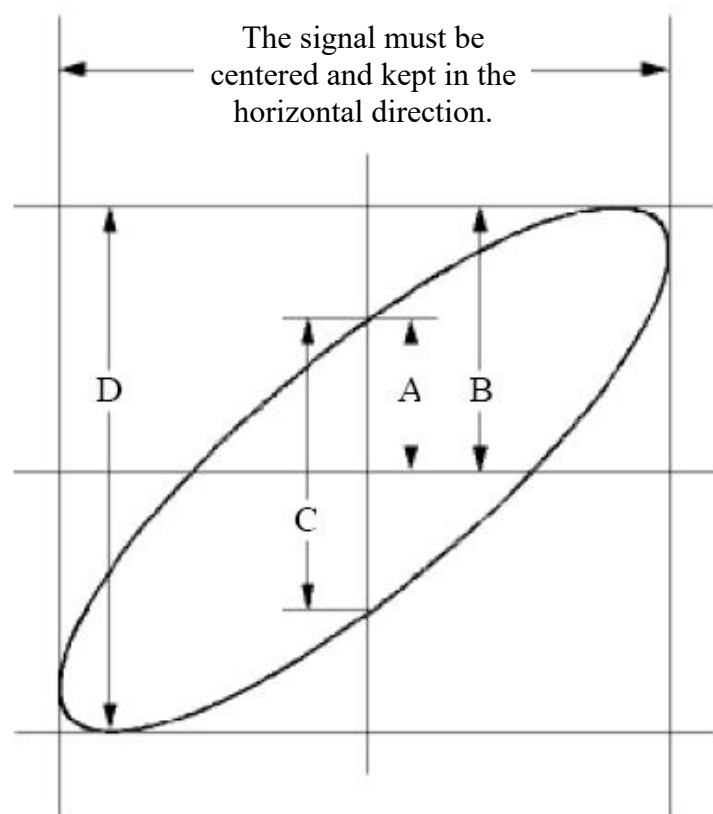

Figure 6-6 Lissajous Graph
- (3) Push the CH1 to CH4 button to turn on CH1 and CH2, turn off CH3 and CH4.
- (4) Push the **Autoset** button, with the oscilloscope turning on the signals of the two channels and displaying them in the screen.
- (5) Push **CH1** button to select CH1, turn the lower knob, and then push **CH2** button to select CH2, turn the lower knob, making the amplitudes of two signals equal in the rough.
- (6) Click  to call up the menu panel. Click the **XY** softkey on panel to switch to the **ON** state. The oscilloscope will display the input and terminal characteristics of the network in the Lissajous graph form.
- (7) Turn the upper and lower knobs, optimizing the waveform.
- (8) With the elliptical oscillogram method adopted, observe and calculate the phase difference (see *Figure 6-6*).